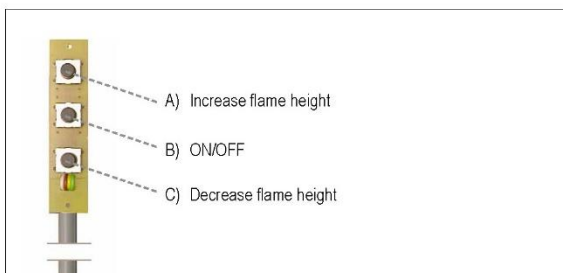

Figure 31: Switch Panel
- Press "B" button (see figure 31) until two short beeps confirm the start sequence has begun; release button.